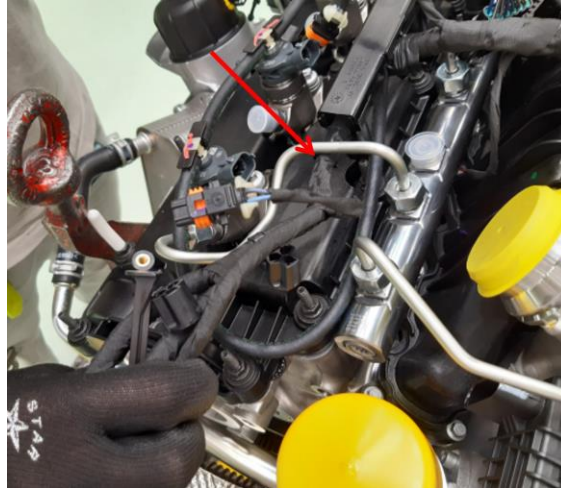

Figure 2.
4. Route the rear of the harness on the driver's side, under the #6 fuel injector fuel line. Please see (Figure 2).